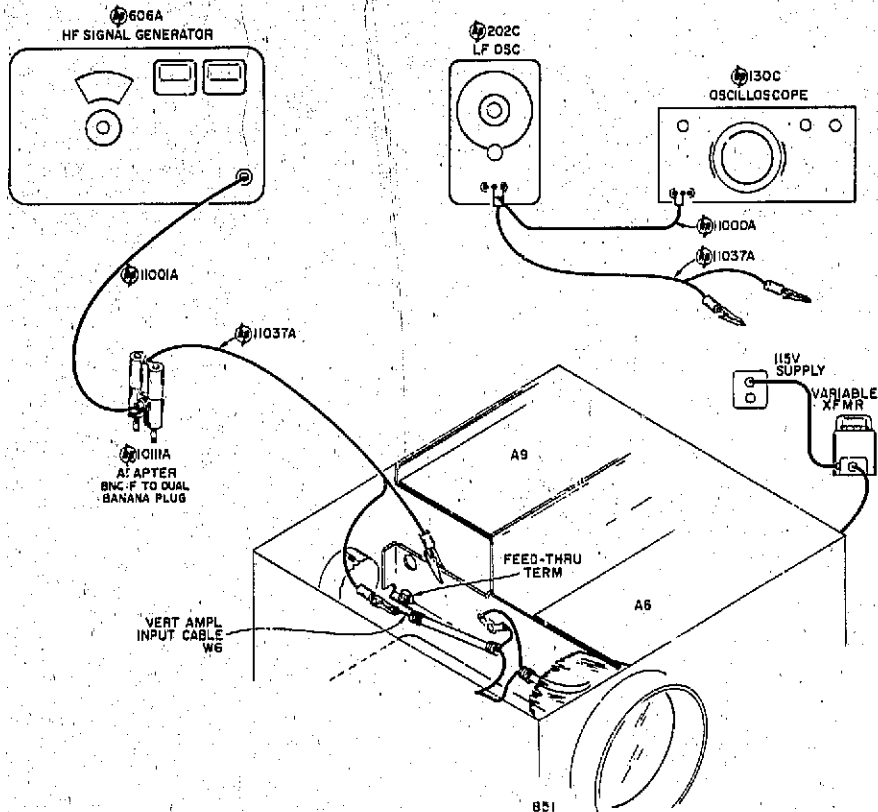

Figure 5-10. Setup for 851 Video Bandwidth Measurements
a. Disconnect coaxial lead at feed-thru terminal coming out of casting which houses RF Circuit Assembly A2. Connect signal generator to this coaxial lead (this lead is Vertical Amplifier Input Cable W6 and is identified in Figure 5-10).